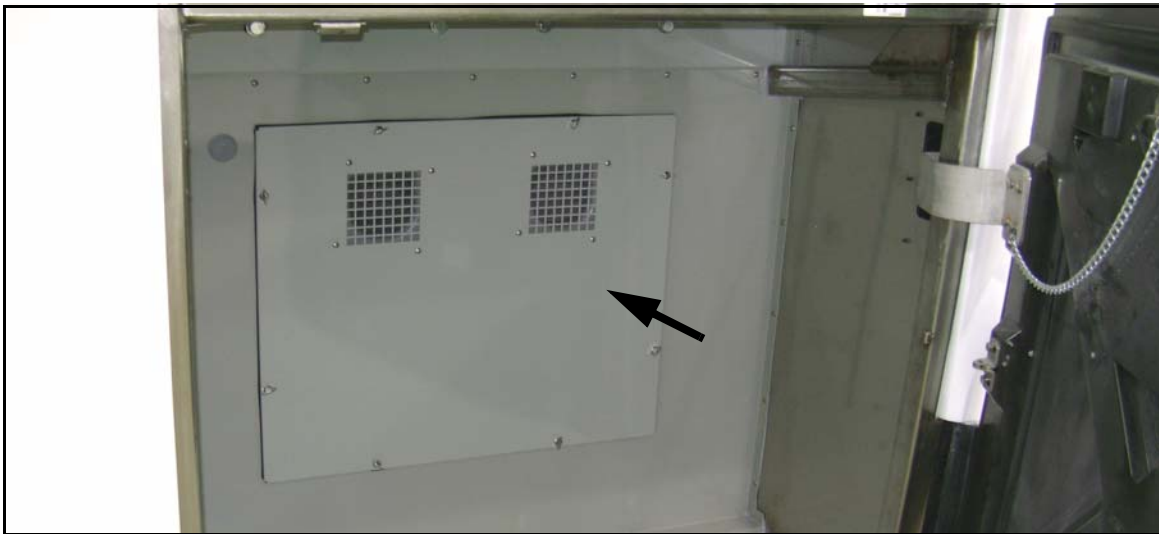

Figure 1.
4. Locate the closing panel on the rear wall of the wheelchair lift compartment. Release the eight (8) fasteners on the closing panel and place aside to be re-installed at a later step in this procedure. Refer to Figure 1.